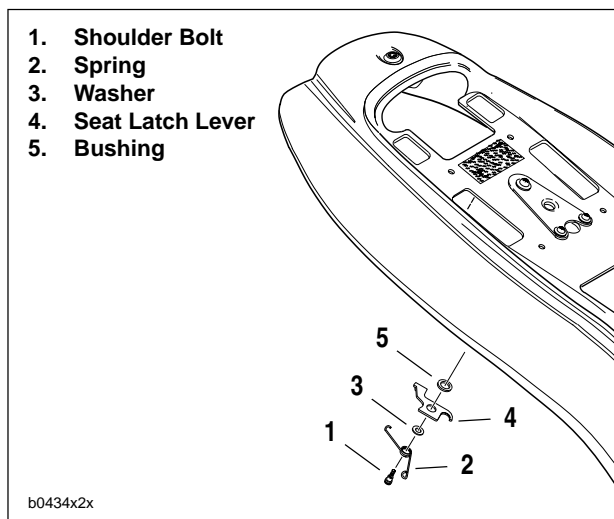

Figure 2-109. Removing Seat
1. See Figure 2-109. Place ignition key in seat lock. Turn key 1/4 turn.
3. See Figure 2-109. Turn ignition key 1/4 turn. Remove key from seat lock.